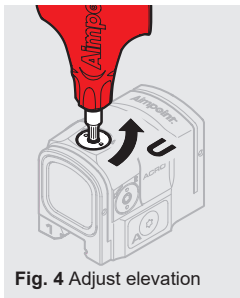

Fig. 4 Adjust elevation
- b Adjust elevation (see Fig. 4):